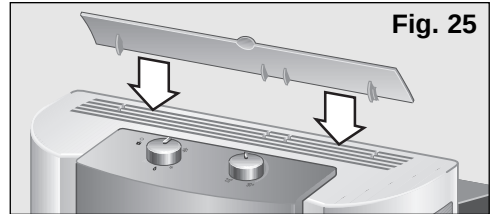

Fig. 25
- ☐ Lift the air director on the top of the appliance. This air director is not installed on the appliance on **PAM0530** models. See **figures 25 and 26** in "Heating".